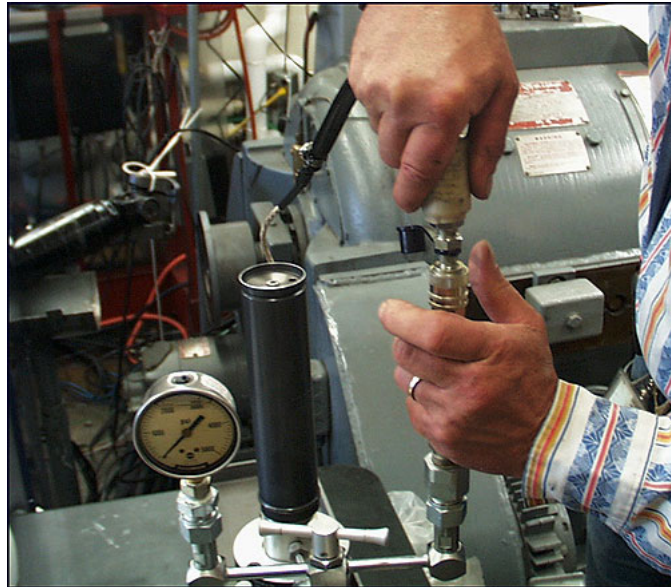

Figure 9
- 114 Remove the open female snap fitting and connect the pressure transducer/quick-disconnect snap fitting to the pressure determination system. See Figure 9.